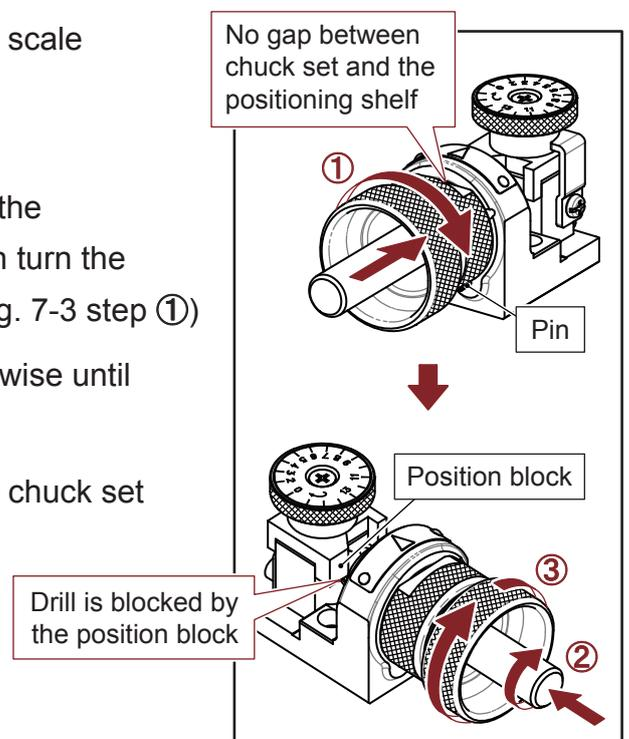

Fig. 7-3
positioning shelf, then insert the chuck set into the positioning shelf and fit them with no gaps, then turn the chuck set clockwise until it stops by the pin. (Fig. 7-3 step ①)
4. Push the drill to the end and slowly turn it clockwise until it stops by the position block. (Fig. 7-3 step ②)
5. Turn the collet holder clockwise and tighten the chuck set to secure the drill. (Fig. 7-3 step ③)